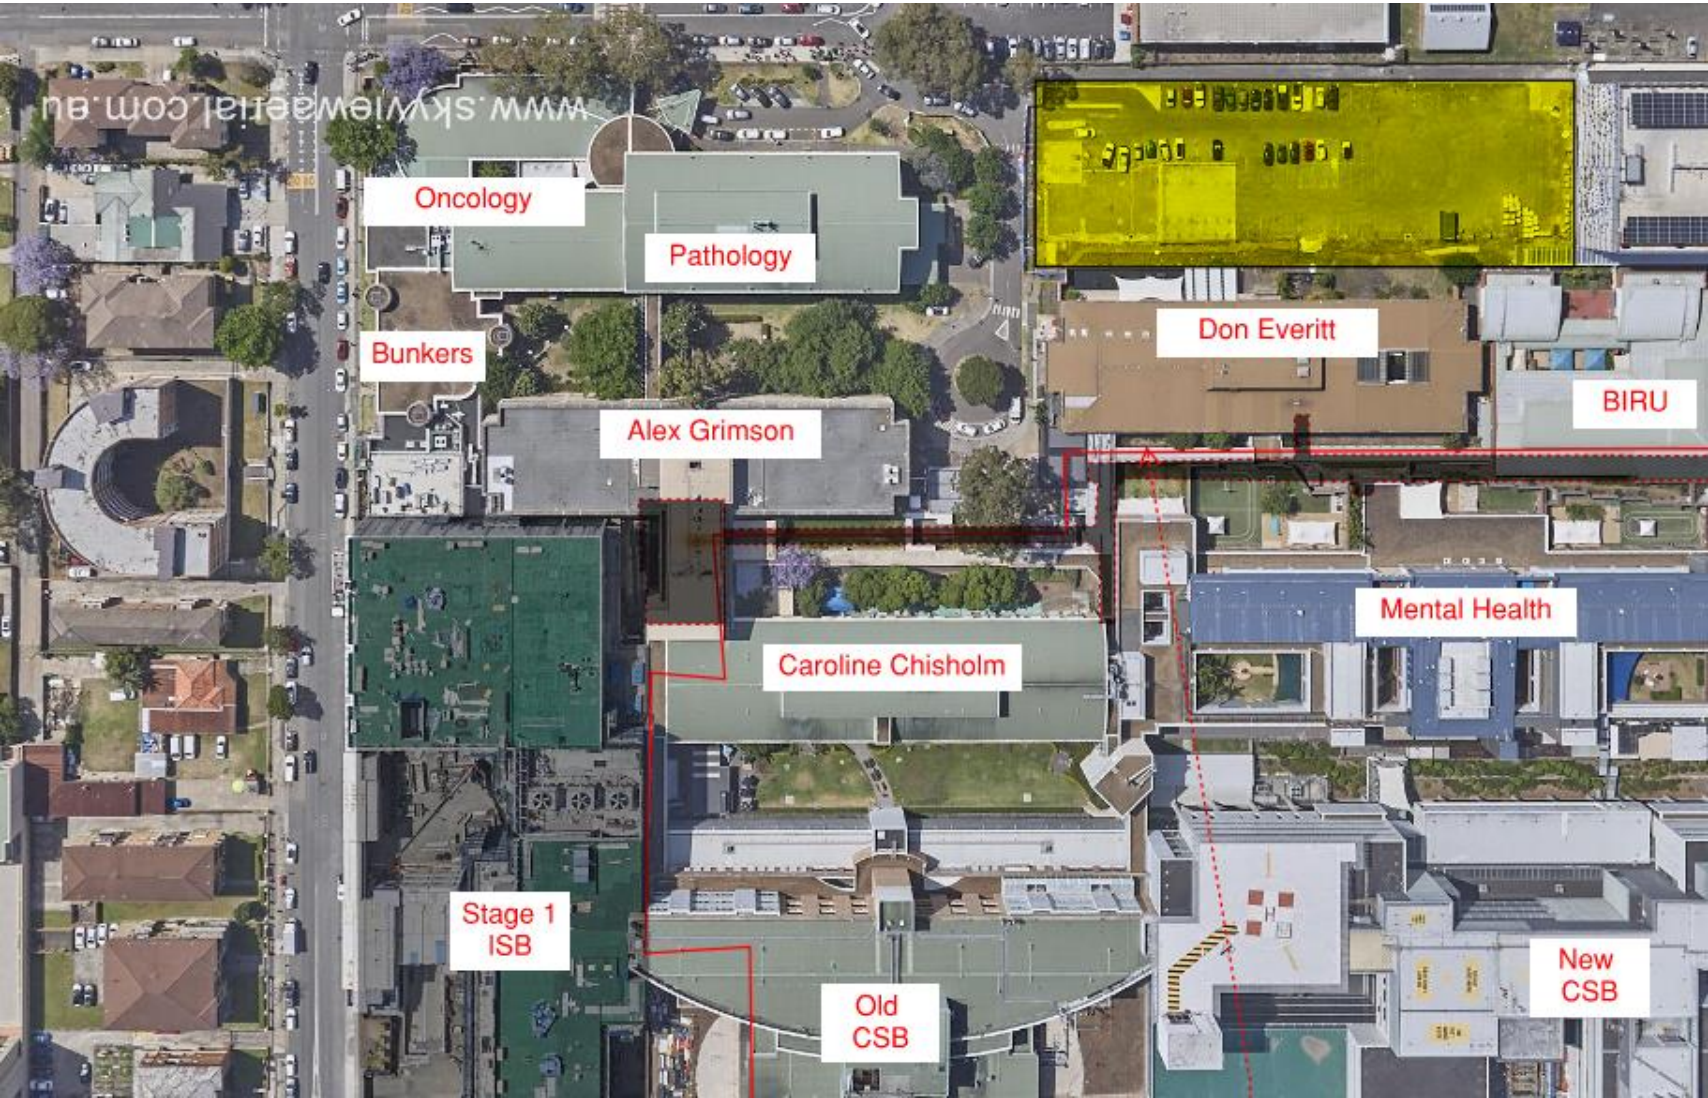

FIGURE 4: CONSTRUCTION WORKER PARKING
- Establishing a Construction Loading Zone on Goulbourn Street; subject to review with LHD via the DN / CIG process. See DN process attached in figure 4.